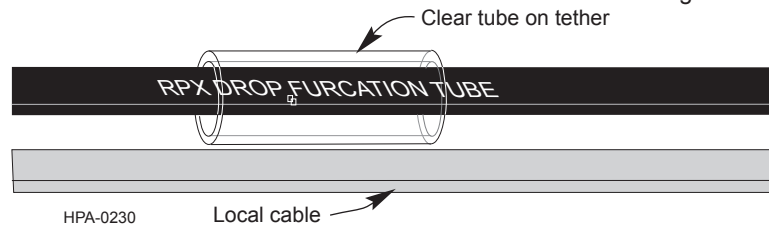

Figure 21
**Step 2:** Remove the tape from around the clear tube, tether and the local cable (Figure 21).